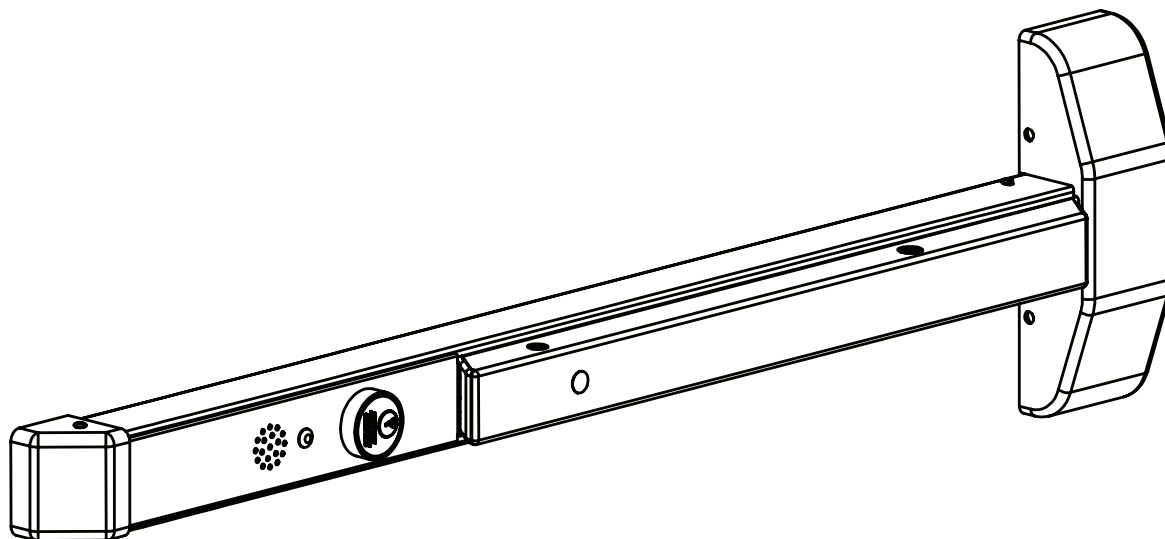
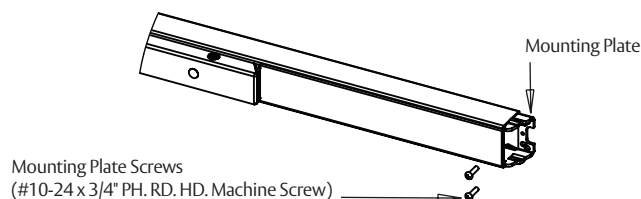

Figure 8
Figure 10
3. Secure chassis to door with four (4) #10 flat head screws. (Figure 8)
5. Place mounting plate tight against rail and attach to door with two (2) #10 round head screws.
6. Tighten all screws securely (Figure 10).